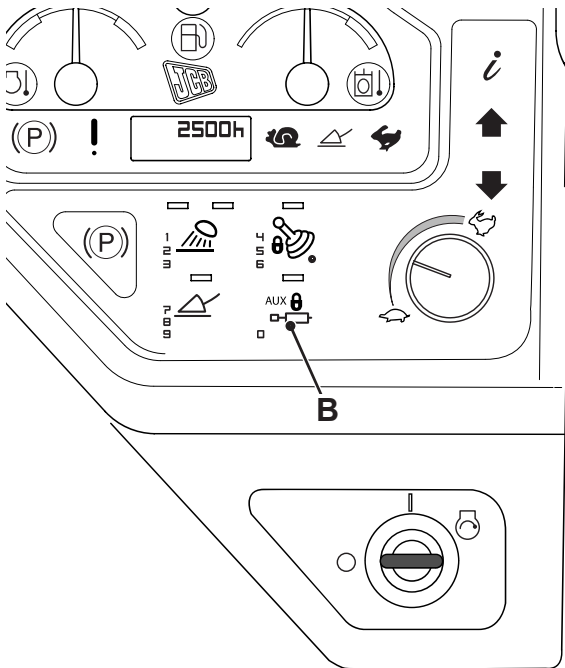

Fig 6.
- 2 Press the high flow switch **A** on the left hand switch panel and ensure the LED is ON. ⇒ Fig 6. \(□ A-16\). ⇒ Left Hand Switch Panel \(□ 1-45\)